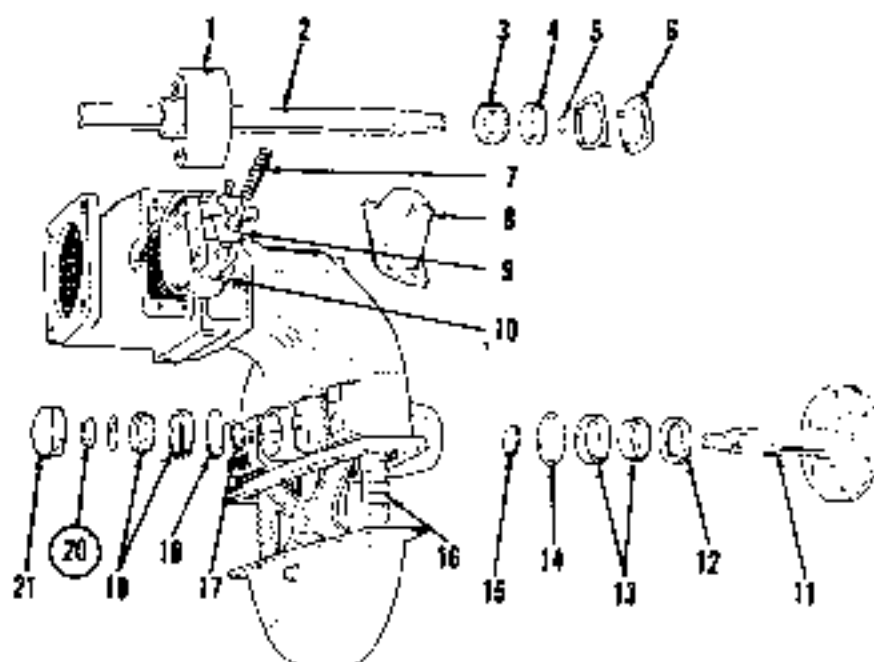

Fig. MH27—Pony final drive assembly. Wheel axle shaft bearings are adjusted by nut (20). Brake drum (1) is keyed to final drive shaft (2).
58. **R & R FINAL DRIVE UNITS.** To remove one or both final drive units, slack under rear of tractor (1) or attach chain to frame cross angle and drive 2, inch wooden wedges under each side of front frame at front axle joint to prevent tractor from tipping over. Remove rear wheels and clutchbar, disconnect brake rods at pedal shaft and remove the two chain links which attach frame side angles to frame cross angle. Be wary of the ball joint on final drive housing to main shaft-differential housing. Put full final drive and from tractor repeat for other final drive.
59. **MASTER (BULL) GEAR AND WHEEL AXLE SHAFT.** Bull gear or wheel axle shaft may be removed with the following final drive housing from tractor. Place jack under transmission and remove rear wheel and clutchbar. Take down bull gear cover, remove dust cap (21-Fig. MH27) and spacer pin (22). Remove inner bearing cap (19) and the bull gear inner snap ring (17) from the shaft. Install a puller as illustrated in Fig. MH28; then push the wheel axle shaft out of bull gear and housing. Outer bearing cone (18-Fig. MH27) and oil seal (12) will come out with the wheel axle shaft. Inner and outer bearing cups (19) and (18) can be pulled or driven from housing for renewal. Bull gear (16) can be reinstalled in reverse of its original position so that opposite, opposite sides of teeth are in contact with pinion and thus increase life of bull gear. When reassembling wheel axle shaft bearings should be given a slight amount of pre-load but not enough to compress the housing. Stake nut (20) into groove on wheel axle shaft to lock. Note: If the complete final drive is being overhauled, it is advisable to install (16) gear and wheel axle shaft first so that pre-load on bearings can be felt.